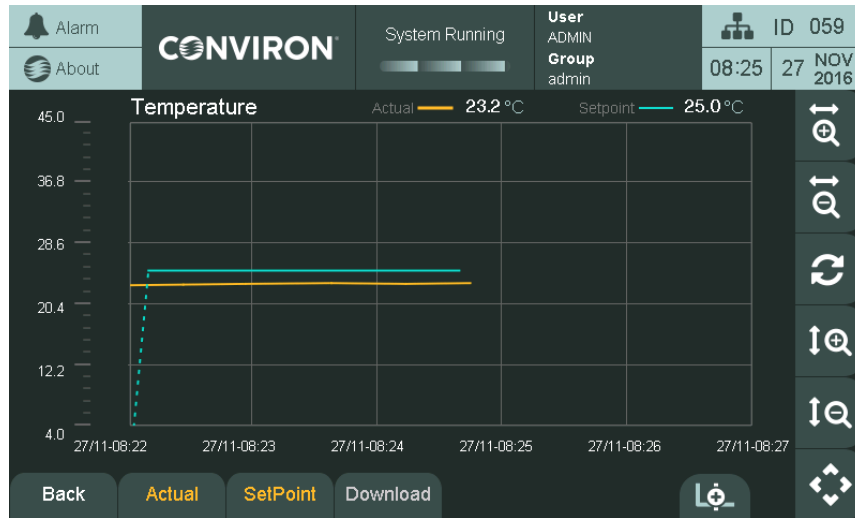
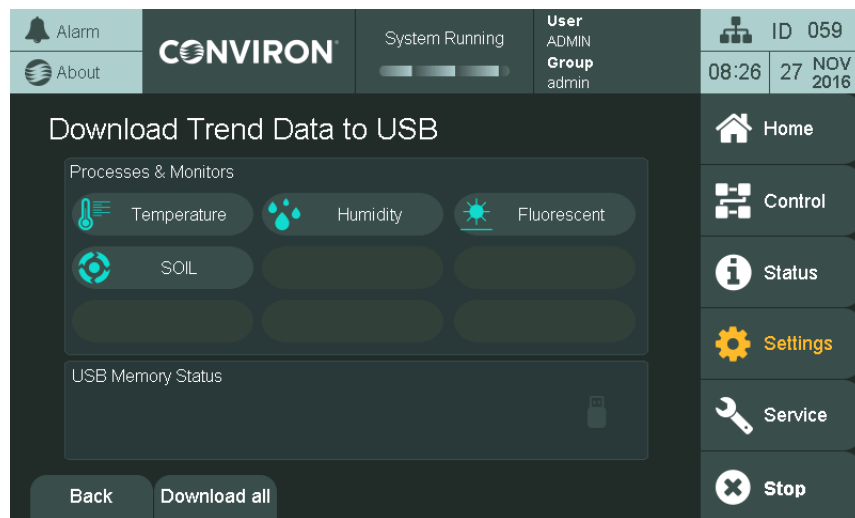

Figure 2-3 Trend Graph Screen
Figure 2-4 Download Trend Data to USB Screen
2. Tap the **Download** button on any **Trend Graph** screen (Figure 2-3). The **Download Trend Data to USB** screen (Figure 2-4) appears.